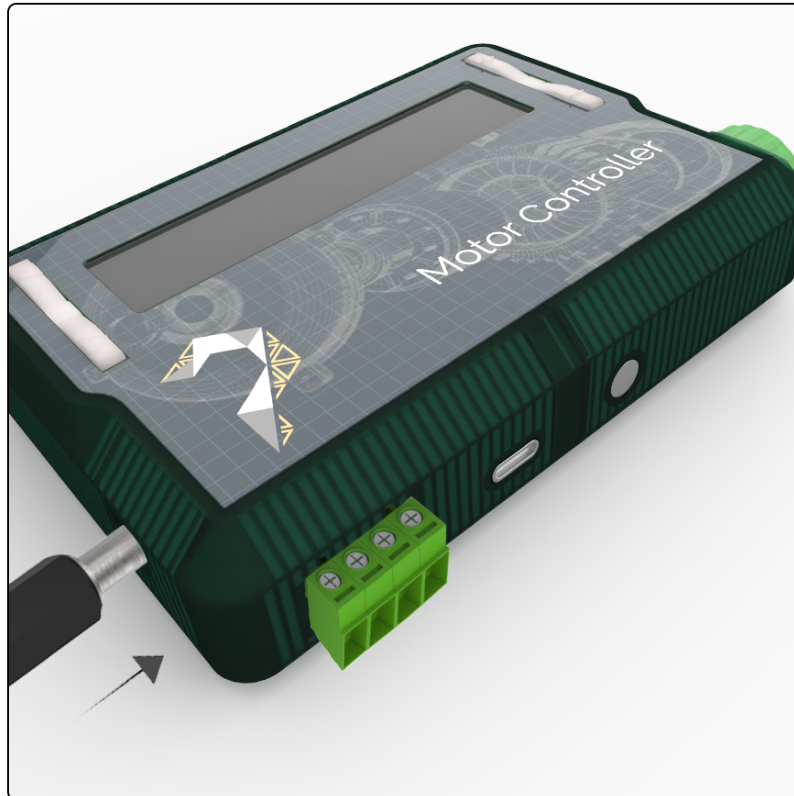

Figure 4.2: The DC barrel plug is connected to the SMC via the DC power jack on the SMC.
3. Connect the DC power adapter to the SMC via the DC power jack on SMC, as shown in Figure 4.2. (For output ratings and plug specifications, refer to Table 3.1).